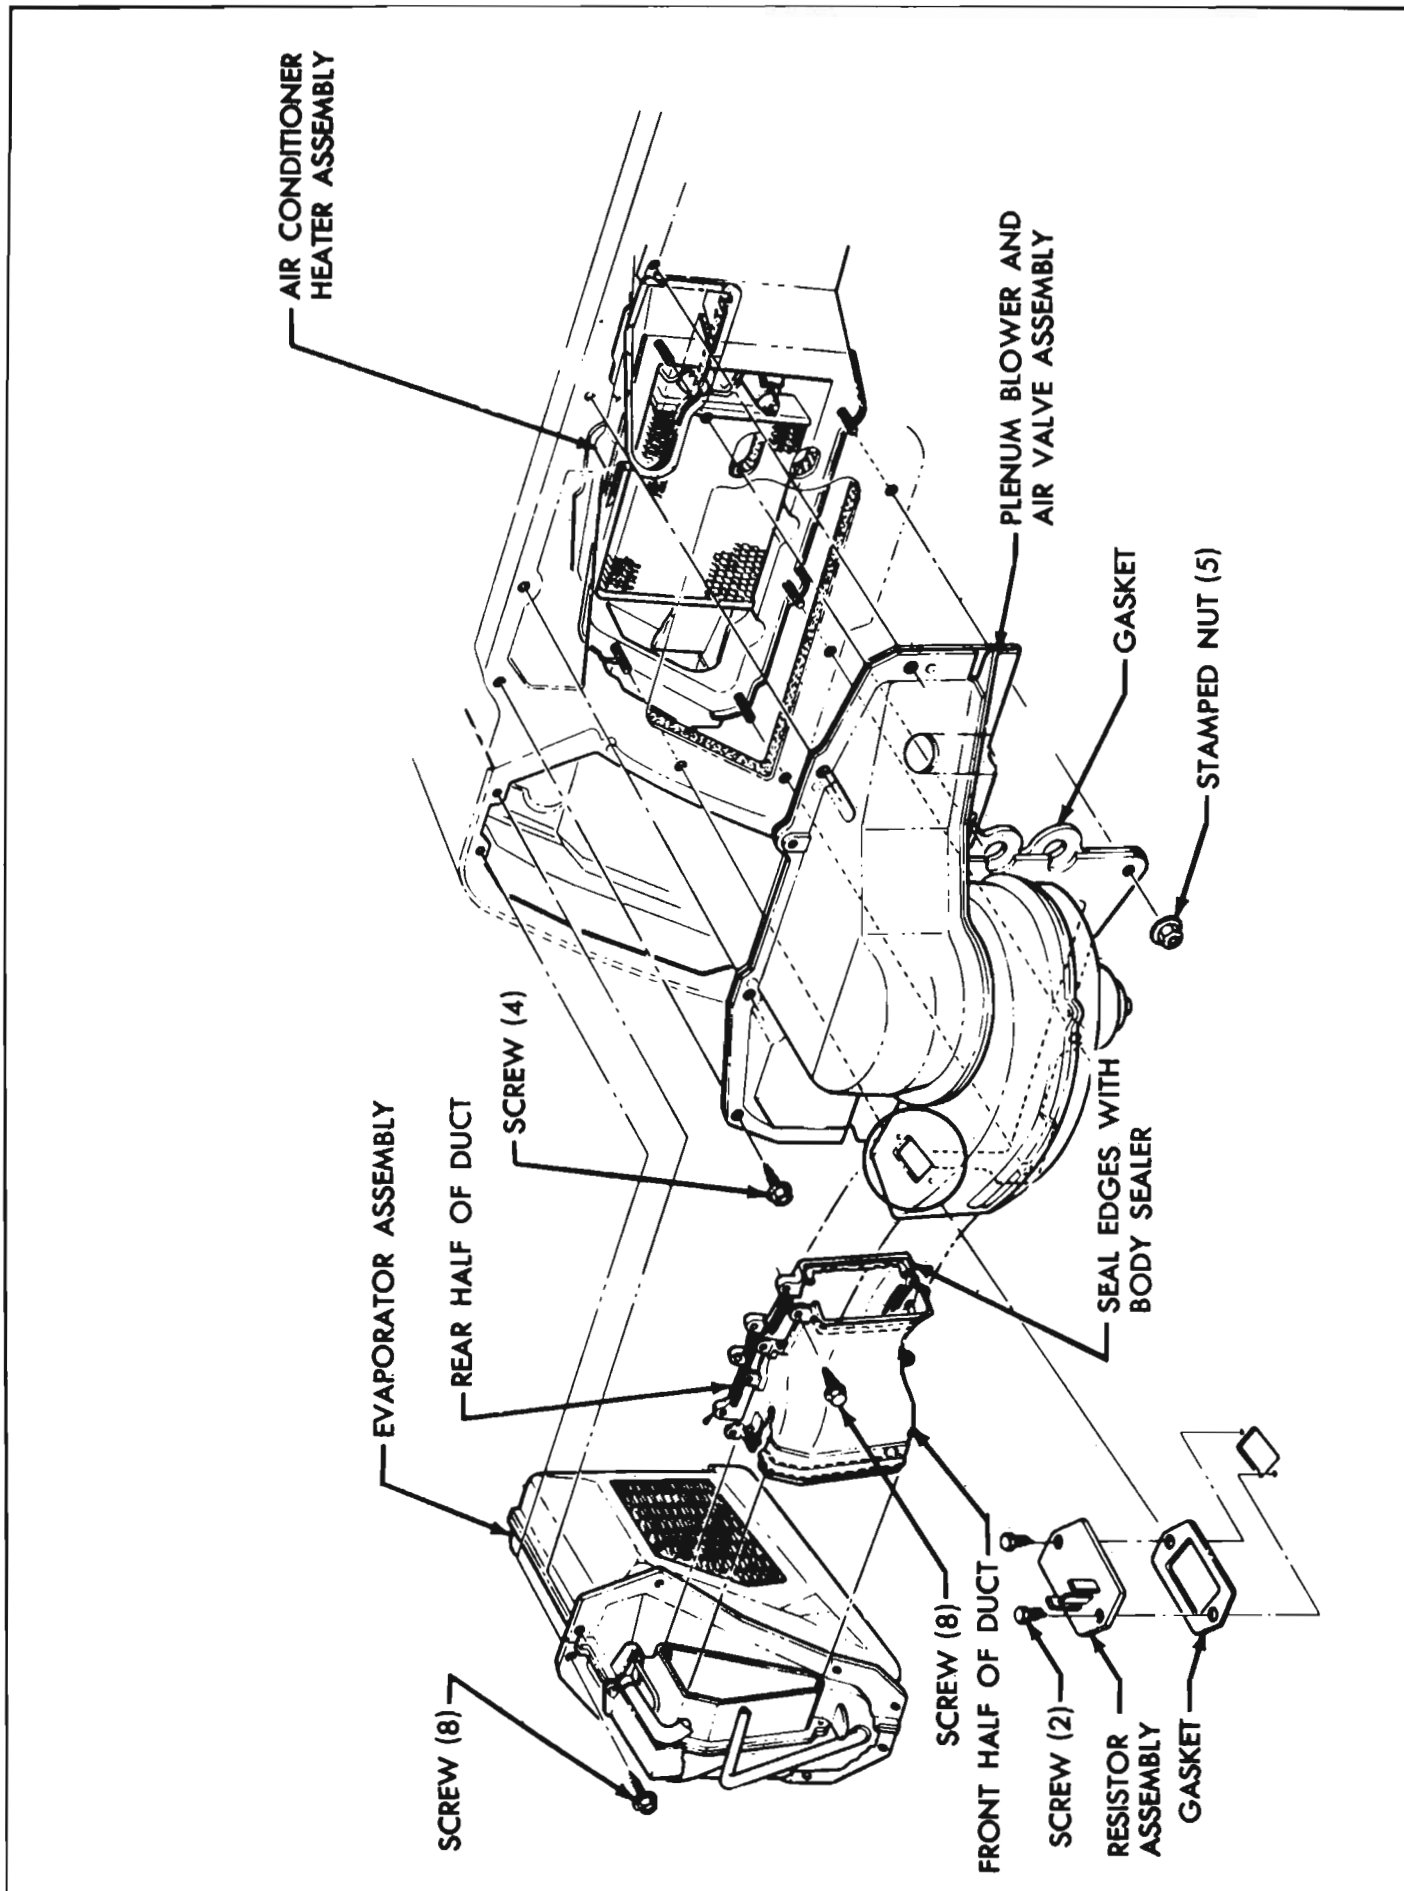

Figure 11-110—Evaporator Assembly, and Plenum Blower and Air Valve Assembly Installation
2. Remove eight screws securing front and rear halves of duct between evaporator, and plenum blower and air door assemblies (see Figure 11-110). Remove front half of duct by pushing it down under the evaporator pipes. Remove rear half in a similar manner.
5. Remove five stamped nuts from studs of air conditioner heater assembly (see Figure 11-110).